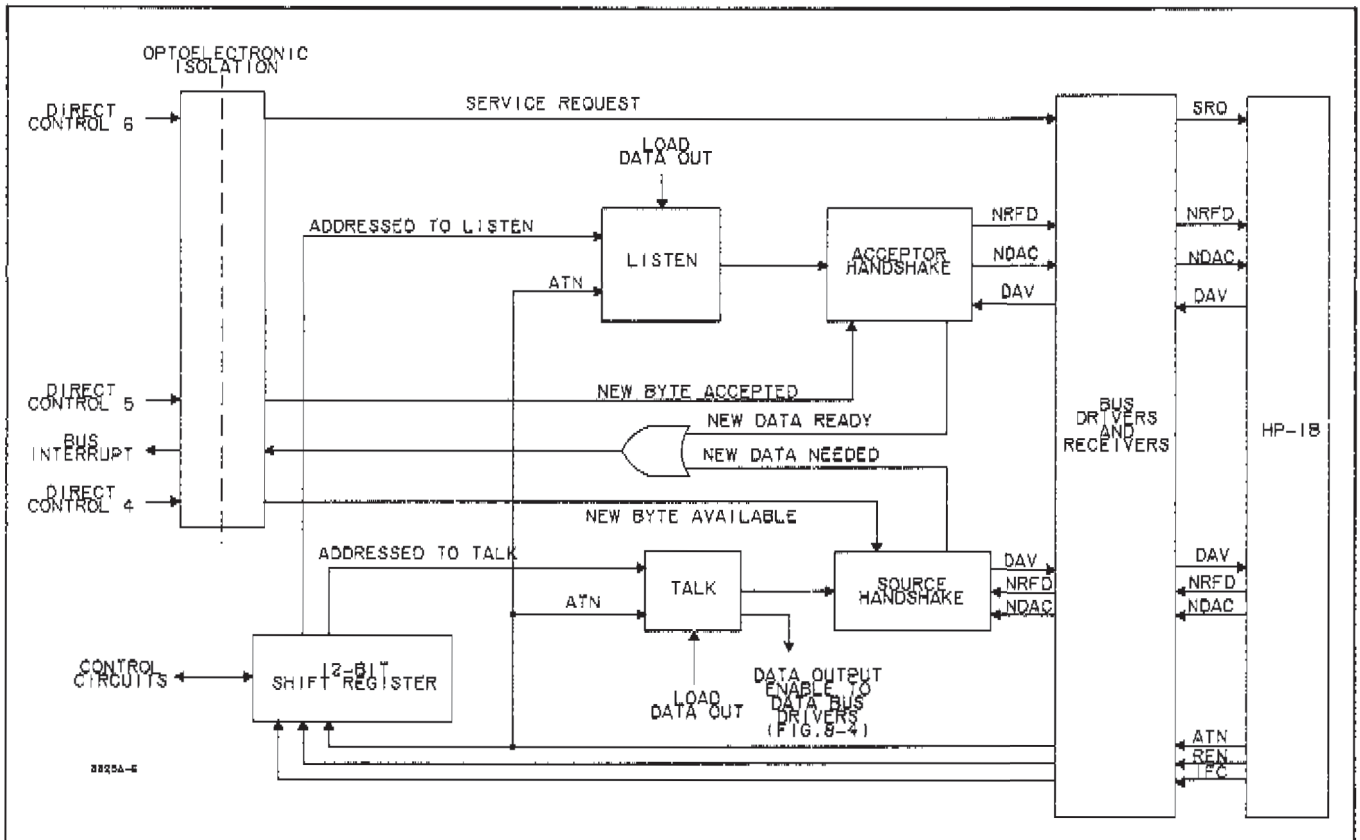

Figure 8-6. HP-IB Management and Handshake.
**8-15. Acceptor Handshake.** The Listen circuits (shown near the upper center of Figure 8-6) enable the Acceptor Handshake block to operate if the 3325A is addressed to listen or if ATN (Attention) is true. When it is not addressed to listen but ATN is true, it accepts data in order to detect its listen or talk address or the untalk command. After the 3325A has been addressed to listen it accepts programming data when ATN is false and looks for its talk address or the unlisten command when ATN is true. When the HP-IB DAV (Data Valid) signal indicates that data is ready on the bus, the Acceptor Handshake circuits output New Data Ready, which becomes a Bus Interrupt signal to the processor. The Acceptor circuits also set NRFD (Not Ready For Data) to indicate to the bus that the 3325A is in the process of accepting the data byte. After the byte has been accepted, the processor outputs a New Byte Accepted to the Acceptor circuits, which then resets the NDAC (Data Accepted) line to high.